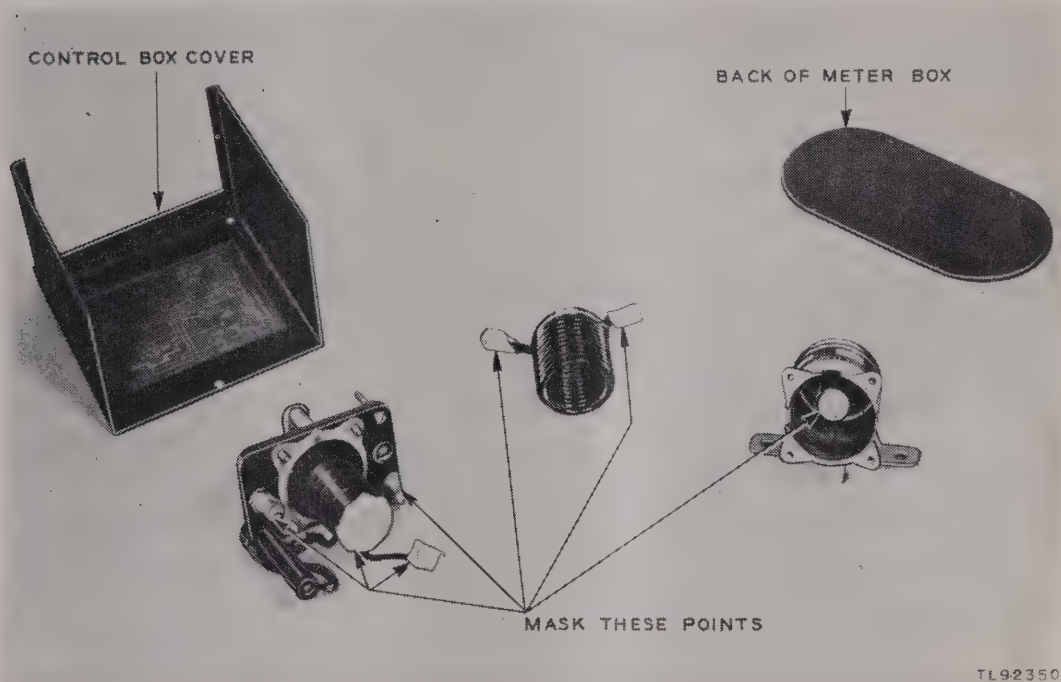

Figure 8. Masking of control box parts.
- (3) *Cleaning.* Clean all dirt, dust, rust, and fungus from the equipment to be processed. Clean all oil and grease from the surface to be varnished.
- (4) *Masking.*
- (d) Mask the armature guide in the relay case (fig. 8).
- (e) Mask the opening in the end of the solenoid coil, as show in figure 8.
- (f) Mask the binding posts and loose terminal lugs on under side of relay. Make sure all parts indicated in figure 8 have been masked.
- (5) *Drying.* Dry under infrared lamps for 2 to 3 hours at 160° F.
- (6) *Varnishing.*